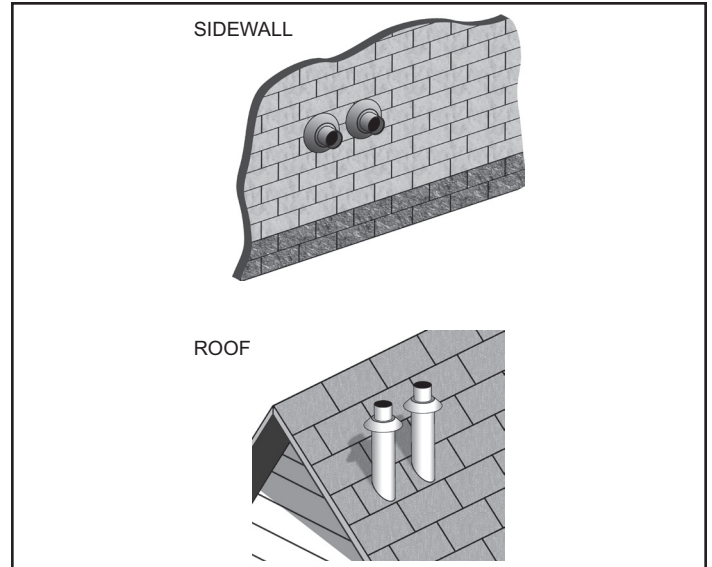

Figure 36. Two Concentric Terminations
1. The clearance between multiple termination caps must be zero inches (touching) to a maximum of two inches (5 cm), dimension A - **Figure 31**, when installing concentric terminations in close proximity. See **Figure 36** (page 32).
Two concentric terminations may be installed in close proximity as shown in *Figure 36* or with standard clearances when this arrangement is not possible. See *Figure 31* (page 31) for detailed information on clearances. See *Figure 32* (page 31) when installing three concentric terminations.